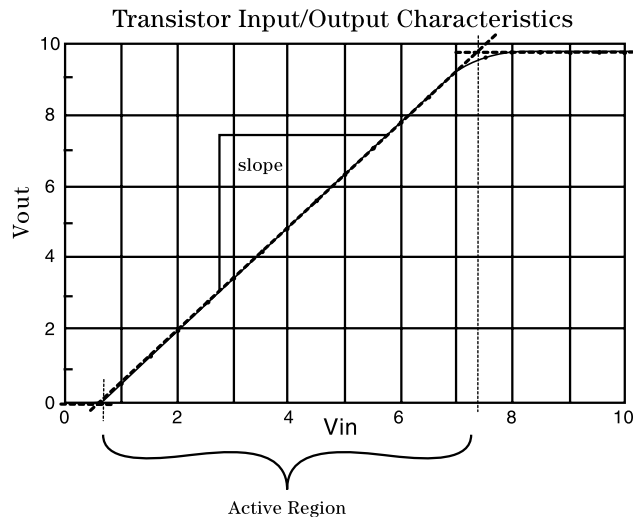

Figure 2
- a. Graph the data you collected on a full page in your journal. Place V_{in} on the x axis, and plot three curves, V_{out} , V_{BE} and V_{CE} as functions of V_{in} . Your graph should be similar to the one shown in Fig. 2, but should also show V_{BE} and V_{CE} . If enough data points were collected, the plot will show that the transitions between cutoff and active, and between active and saturated are somewhat rounded. Use a different color ink to fit straight lines to each of the three operating modes for the V_{out} data. The two intersections of these three straight lines represent the best approximation of the transition from cutoff mode to active mode, and from active mode to saturated mode. Draw a vertical line extending from the top to the bottom of your graph, at each of these two intersections. Label the mode of operation for each of the three regions.